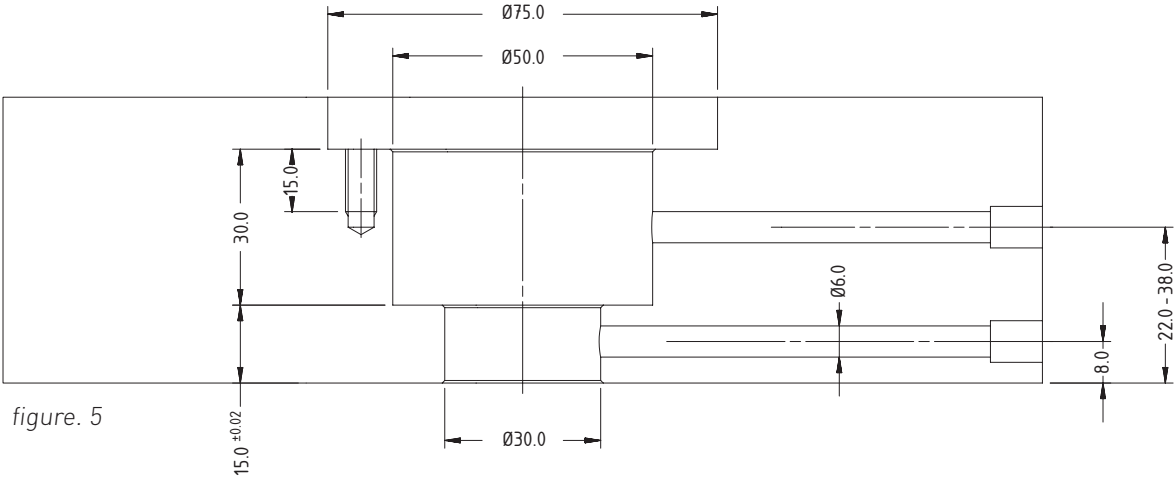

figure. 5
1. Verify the actuator pockets and air circuits are machined in the back plate as shown in figure 5.